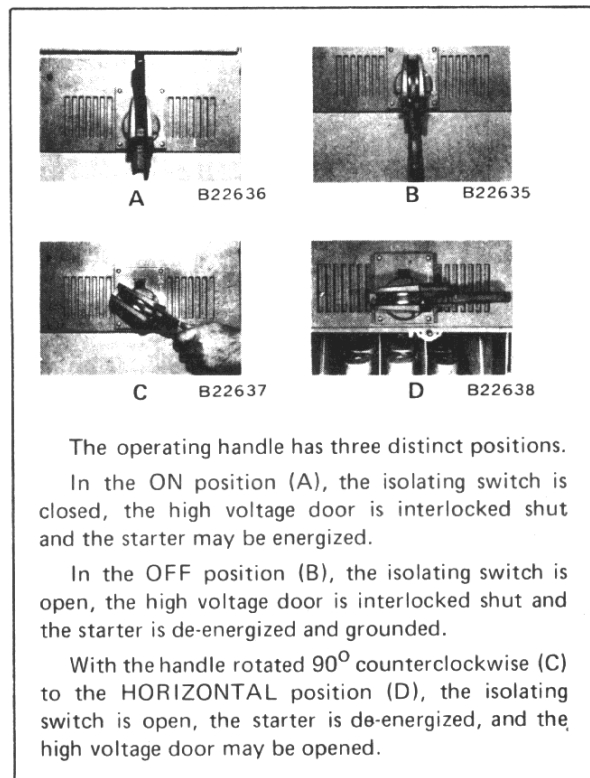

Fig. 5. Isolating Switch Handle Operation
**Isolating Switch Handle (Fig. 5).** The starter is shipped with the isolating switch in the ON position. The isolating switch handle is operated by moving it through a vertical arc from the ON to the OFF position. From the OFF position, it can be rotated 90° counterclockwise to the HORIZONTAL position, the door open position.
This interlock is a spring loaded plunger located just below the handle housing (Fig. 5). This prevents the handle from being accidentally returned to the OFF position. This interlock may be deliberately cheated by depressing the plunger with a screwdriver so that the handle can be moved to the OFF position to observe the operation of the isolating switch during installation or maintenance. To do this, it is necessary to deliberately cheat the interlock. The handle must be returned to the HORIZONTAL position by again depressing the interlock plunger before the high voltage door can be closed. The operator must be aware of what he is doing and take appropriate safety precautions.